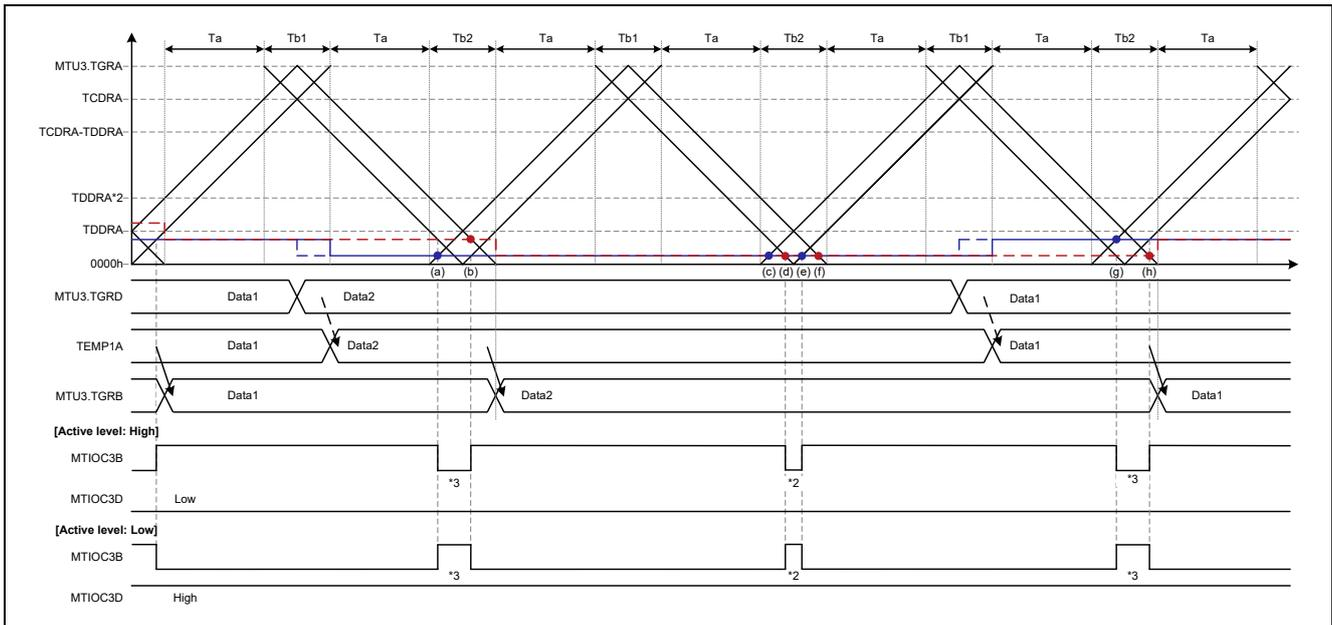
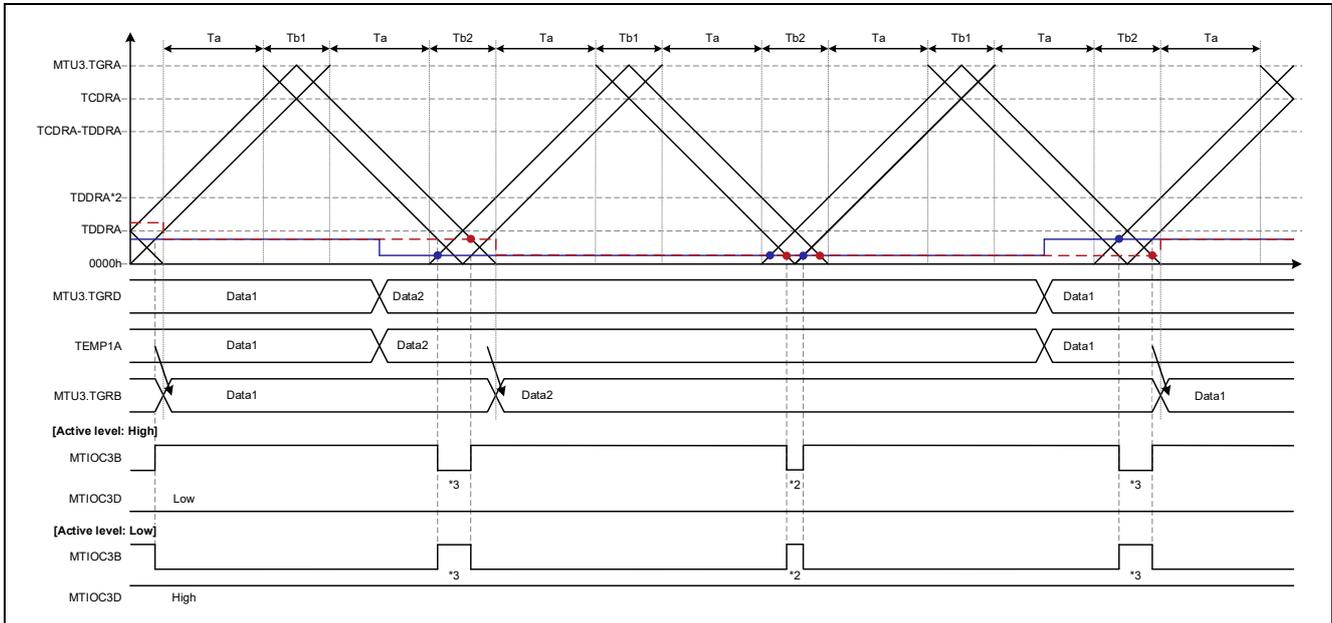

Figure 1.26 Complementary PWM Mode 2 Operation Example (Output Start: Trough, Overwrite in Tb Interval, Duty: B → A → B)
Figure 1.27 Complementary PWM Mode 2 Operation Example (Output Start: Trough, Overwrite in Ta Interval, Duty: B → A → B)
| 1.3.1.2 | Change from Near 100% to Near 100% (B → A → B) | Figure 1.26 Figure 1.27 | *2, *3 | Figure 1.28 Figure 1.29 | *2, *3 |
Figure 1.26 to Figure 1.29 illustrate the MTU operating modes and cautions listed in Table 1.9.
- [Operation example 1] Figure 1.26, Complementary PWM Mode 2, Output Start: Trough, Tb Interval Overwrite, cautions 2 and 3
- [Operation example 2] Figure 1.27, Complementary PWM Mode 2, Output Start: Trough, Ta Interval Overwrite, cautions 2 and 3
Figure 1.26 shows an operation example of buffer overwrite in the Tb1 interval (crest) in complementary PWM mode 2.
Figure 1.27 shows an operation example of buffer overwrite in the Ta interval in complementary PWM mode 2. Except for the difference in the buffer overwrite timing, the operation is the same as that shown in Figure 1.26.
Figure 1.28 shows an operation example of buffer overwrite in the Tb interval in complementary PWM mode 3. Except for the difference in the buffer overwrite timing and transfer timing, the operation is the same as that shown in Figure 1.26.
Figure 1.29 shows an operation example of buffer overwrite in the Ta interval in complementary PWM mode 3. Except for the difference in the buffer overwrite timing and transfer timing, the operation is the same as that shown in Figure 1.26.